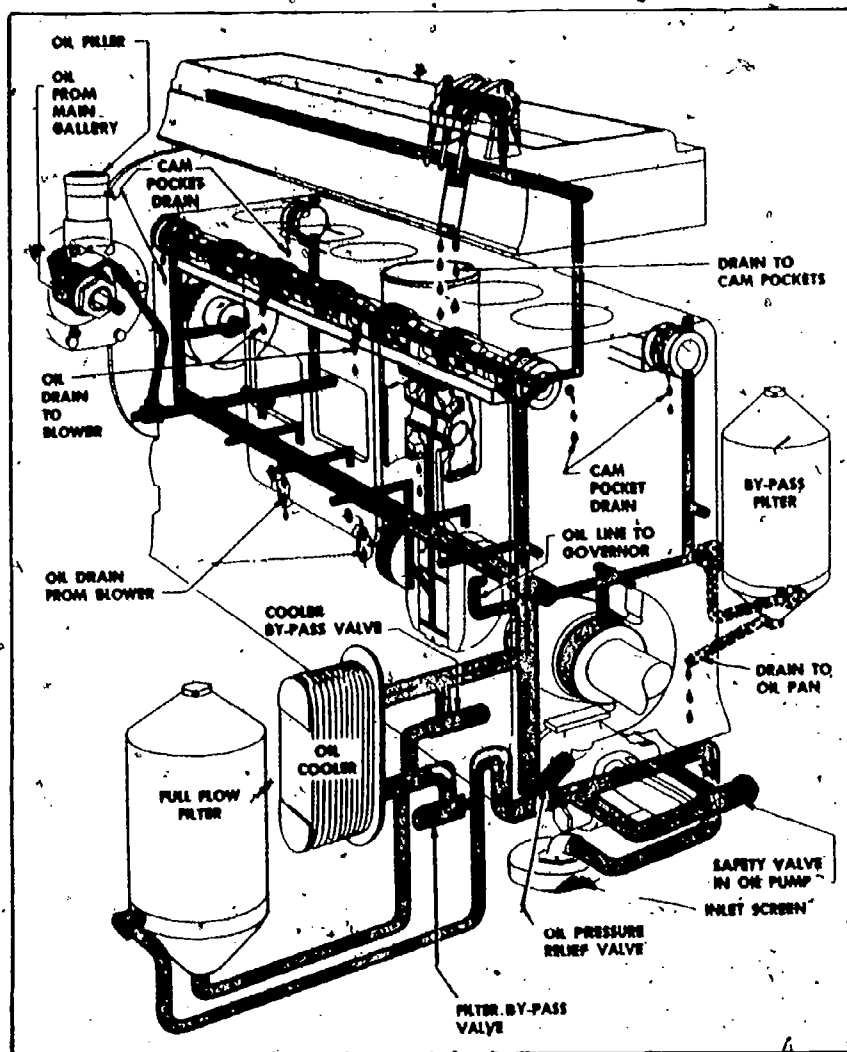

Fig 2-22. Schematic of typical lubricating system.
- (c) **Lubricating (fig 2-22).** The lubrication system of the Detroit diesel engine is a full force-feed system. The engine may be equipped with either full-flow or by-pass filters. The oil pump is a positive displacement gear-type pump driven by the crankshaft gear. Study figure 2-22 and note the flow of oil through the system and the valves which assist in protecting the engine. Note that this system uses an oil cooler which is mounted so that water flowing to the engine cools the oil. The oil then assists in cooling the engine. You should also see that oil is sprayed on the underside of the piston crown to assist in cooling. Although only one filter is shown in the diagram, most engines used in engineer equipment are equipped with dual filters.